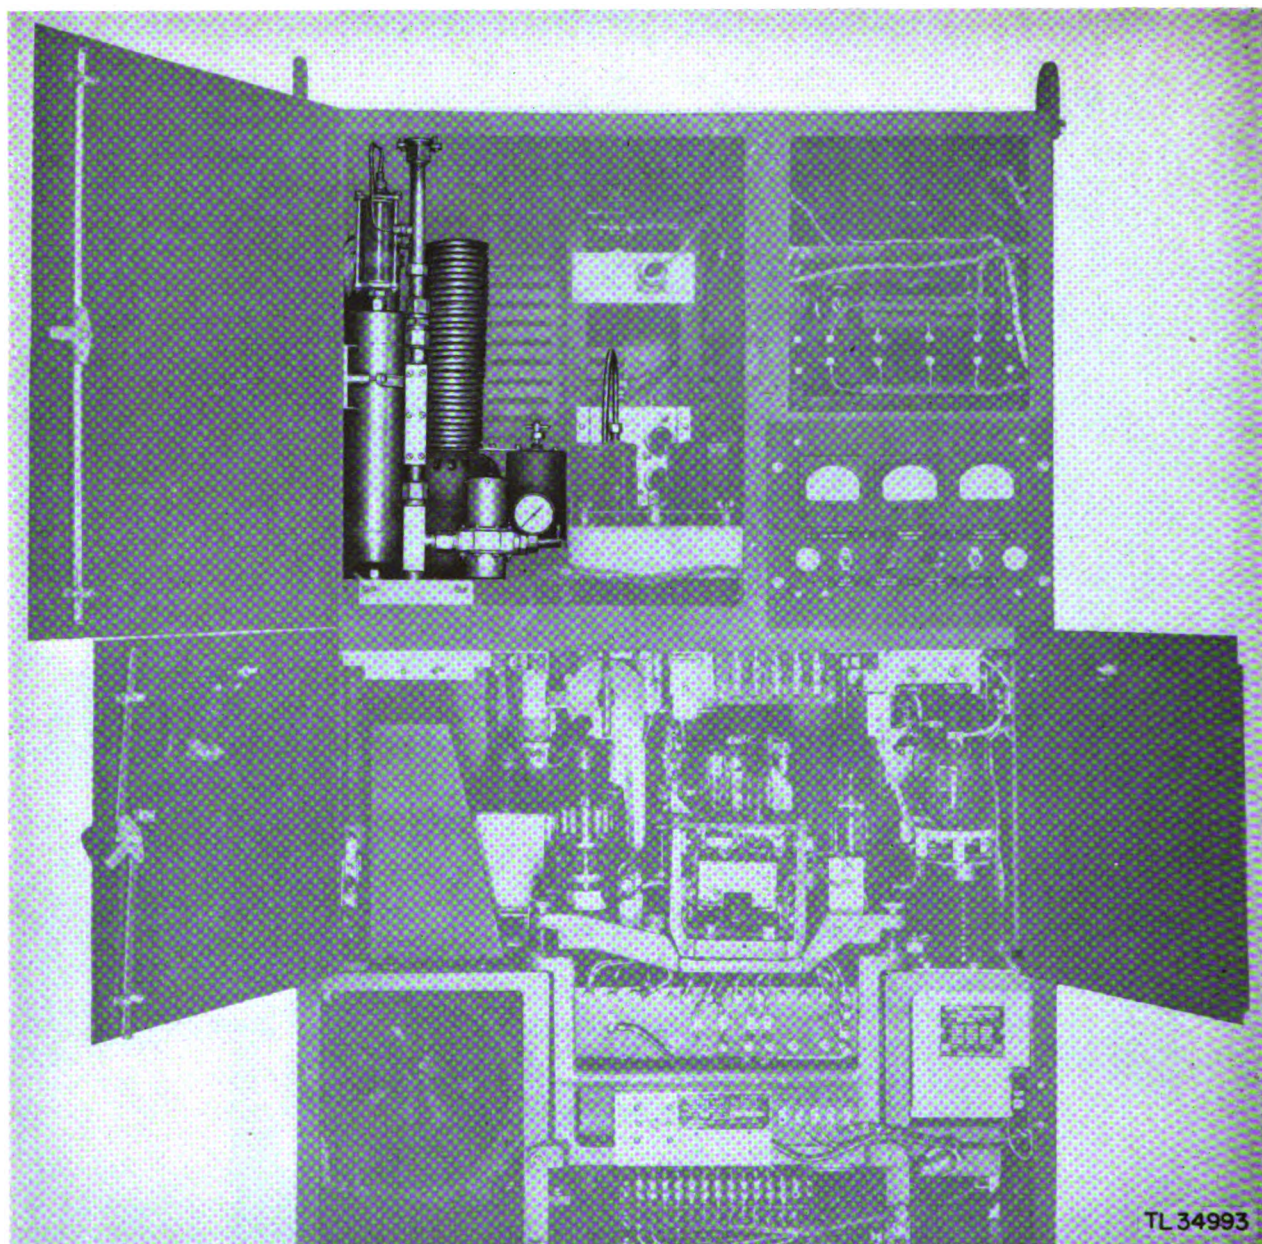

Figure 50. R-f system.
b. With the exception of the antenna and the r-f line between the antenna and the transmitter cabinet, the entire r-f system is located in the upper left-hand compartment of the transmitter cabinet (fig. 50).